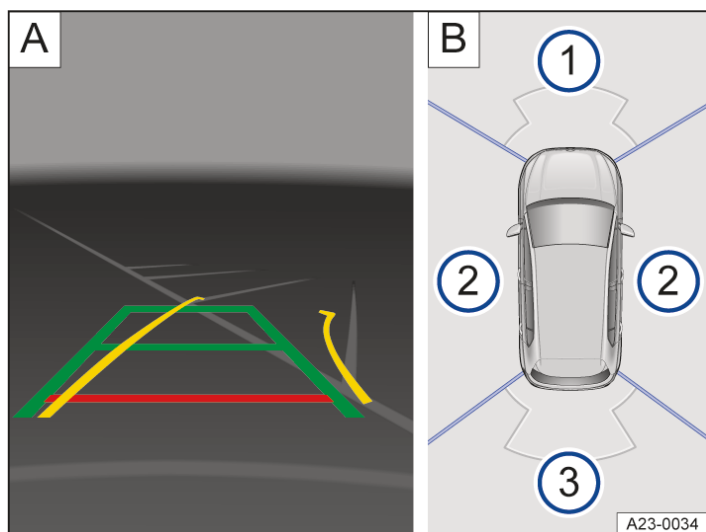

Fig. 1 Infotainment system: Area View with "perpendicular parking mode" camera image (illustration).
Two screen areas are displayed on the Infotainment system → Fig. 1:
1. To display the desired camera image on the right, → Fig. 1 Ⓑ, tap the area of the screen on the left for the front, rear or side view → Fig. 1 Ⓐ.